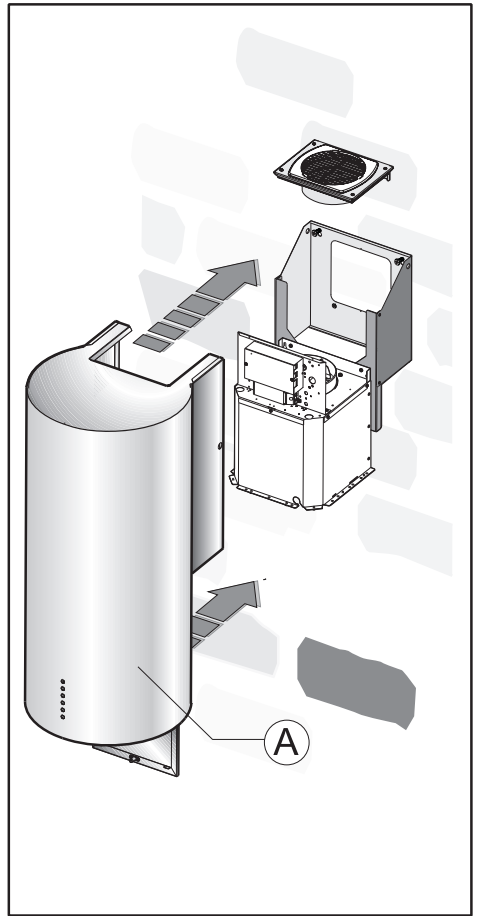
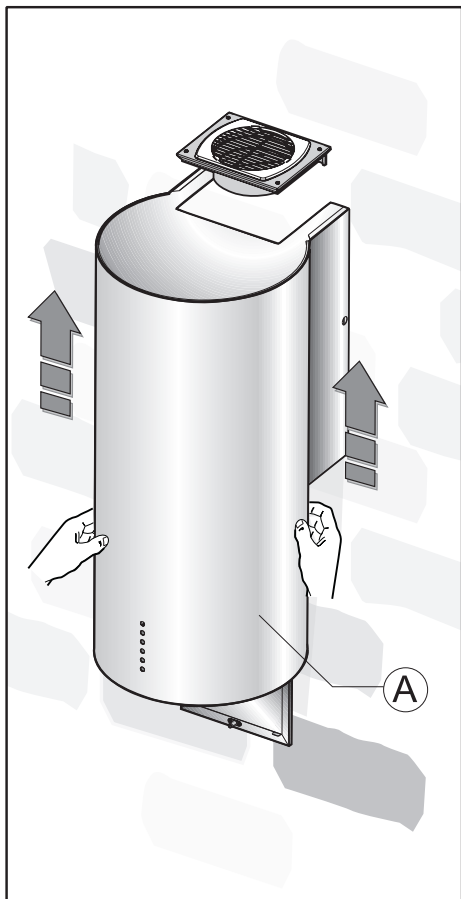

Fig.7
Fig.10
- Position the bodywork A against the wall (**Fig. 7**) and align it with the frame, pushing it upwards (**Fig. 10**).